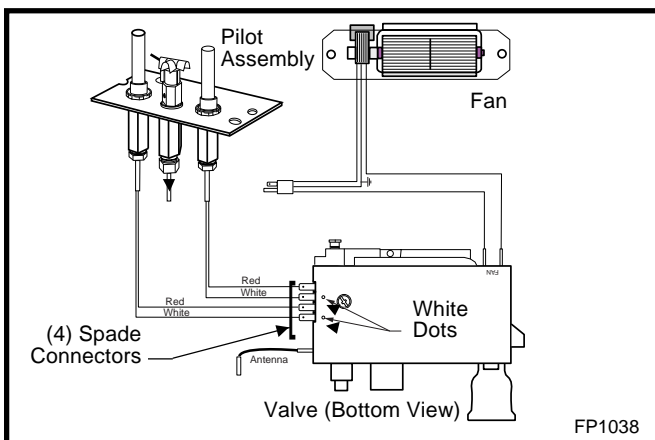

Fig. 54 Comfort Valve wiring diagram.
1. Make sure the spade connectors are pushed all the way on. (Fig. 54) If Error Code 3 is still showing, go to the next step.